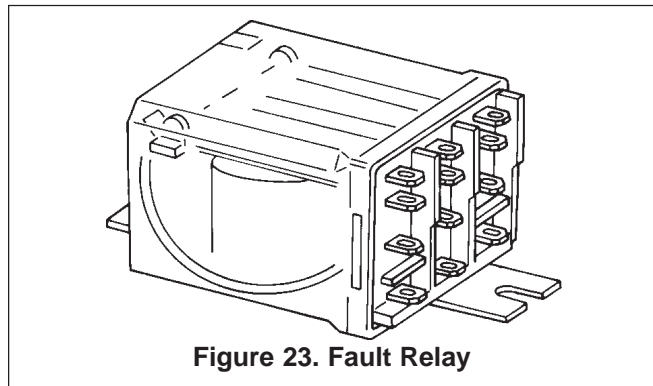

**Figure 22. Ten-Foot Power Cord**
**TEN-FOOT POWER CORD.** (See Figure 22.)